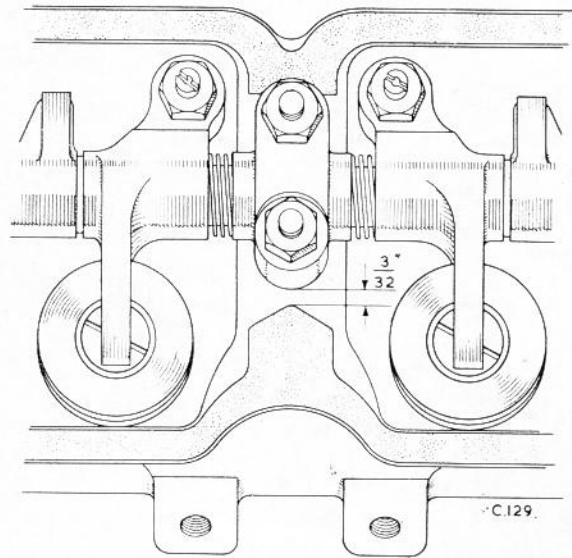

Fig.21 Rocker cover joint clearance.
10. Replace the rocker box covers, using new joint washers and rubber seals; make sure that there is at least $\frac{3}{32}$ in. (2.38 m.m.) clearance between the bearing cap and gasket at the inlet rocker box cover as shown in Fig.21.